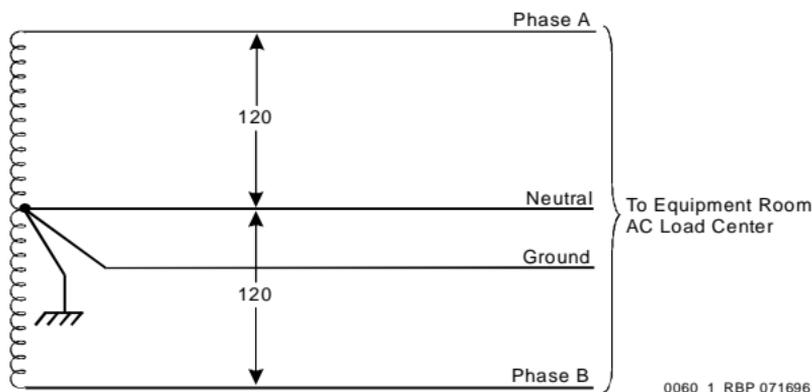

Figure 15. Single-Phase, 120/240 VAC, 60 Hz Source
- Single-phase, 4-wire, 120/240 VAC supplying 240 VAC. See Figure 15. This source has 3 hot wires plus 1 ground wire.